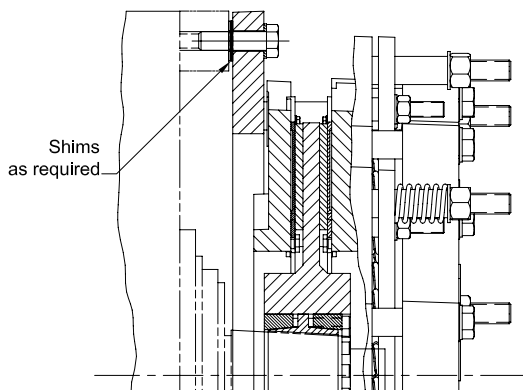

Figure 4
- 2.2.3 One at a time, remove the threaded rods installed at each lug location and replace each with a 1-1/2" 6NC X 5.00" Grade 8 hex head screws and lock washers (customer provided). Tighten the hex head screws to the appropriate specification. See Table 3. Ensure the required shims calculated in Table 1 column D are installed between the mounting lug and the mounting flange (2) prior to tightening the hex head screws. See Figure 4.